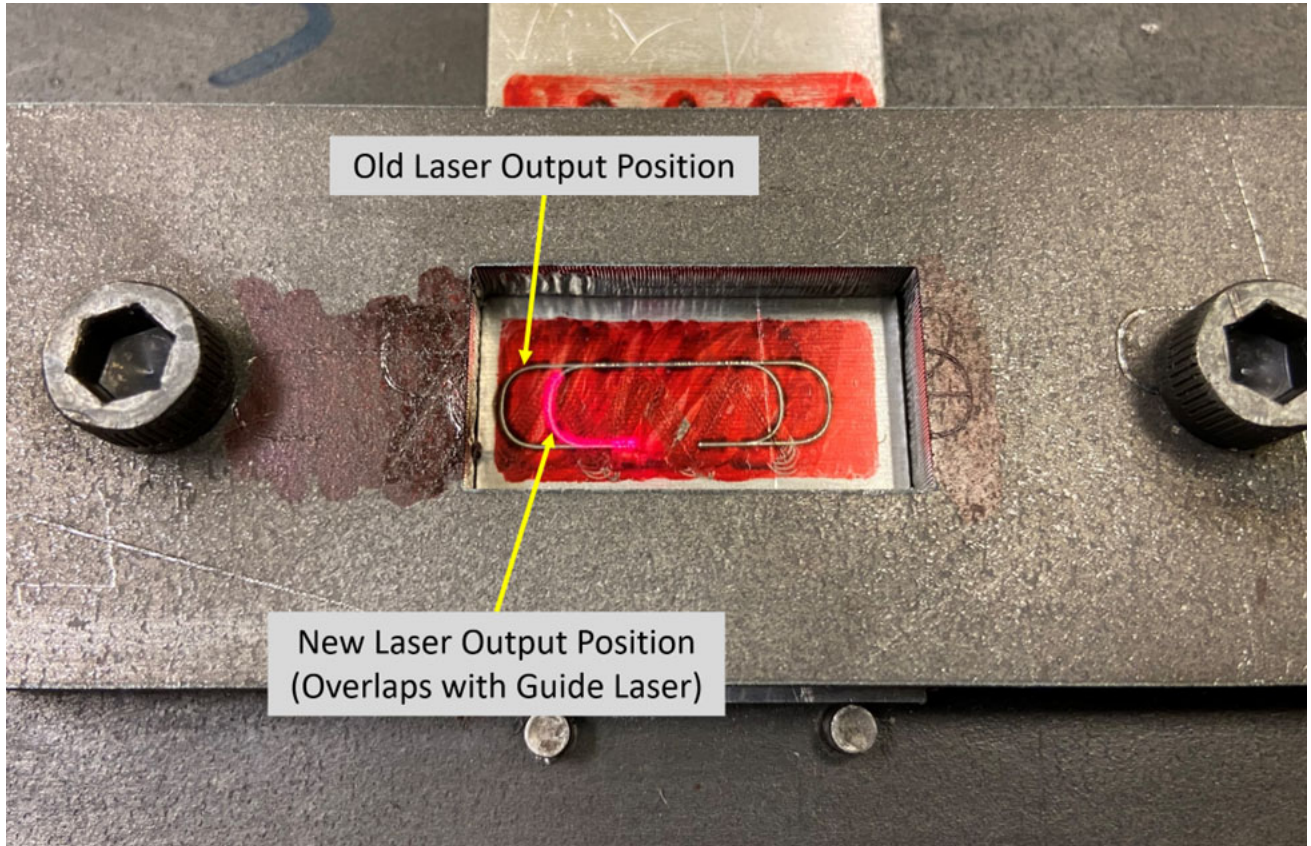

Figure 316: Laser Output Now Aligns with the Guide Laser Position
- a. Here users should now notice that the new laser output is closer to the guide laser position or overlapping the guide laser position (see Figure 316). If some offset still exists, users can continue to modify the OTF Trigger Delay value to further dial in the process.